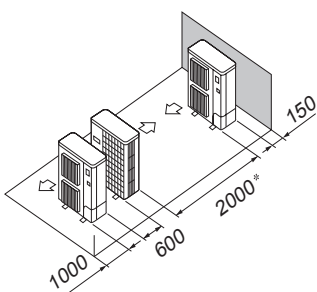

Fig. 4-16
- ⑤ Single parallel unit arrangement (Fig. 4-16)